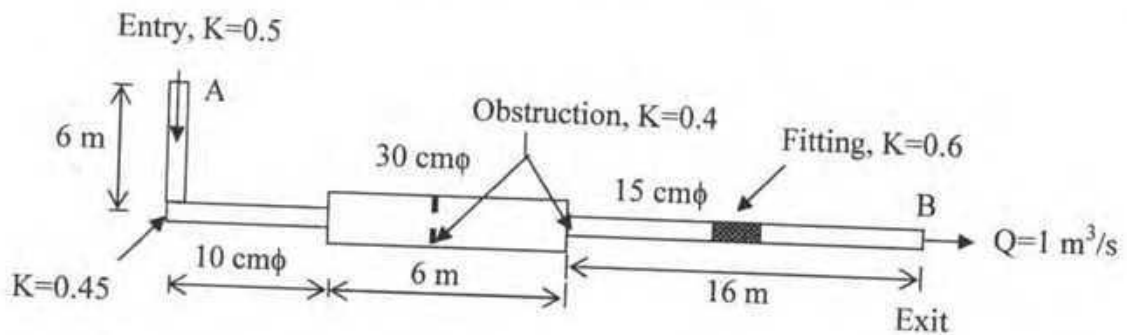

Figure 10
- c. Find out the total losses in the pipe AB shown in Figure 10. Take $f=0.04$ 7